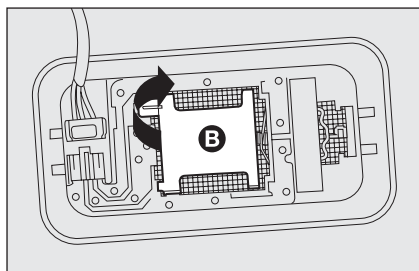

fig. 41
- open cover **B**-fig. 41 as shown;